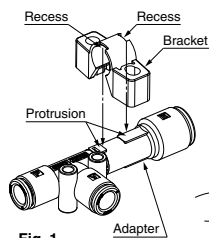

Fig. 1
- 1) Align the recess of the bracket and protrusion of the adapter. Push the bracket from the top onto adapter (Fig.1).